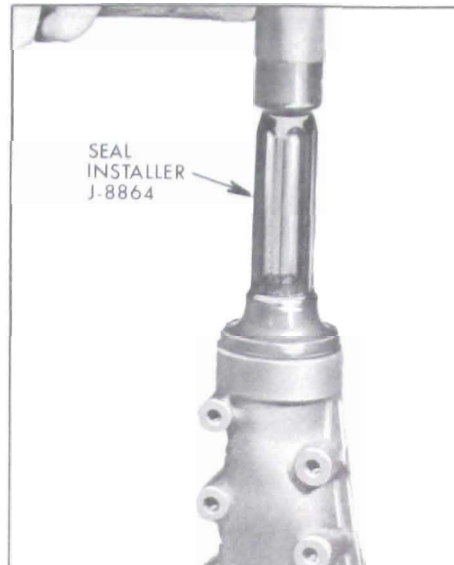

Figure 4-43—Installing Case Extension Oil Seal
18. Install new oil seal in rear bearing retainer, using Seal Installer J-8864. See Figure 4-43. Lightly coat seal with gear lubricant.